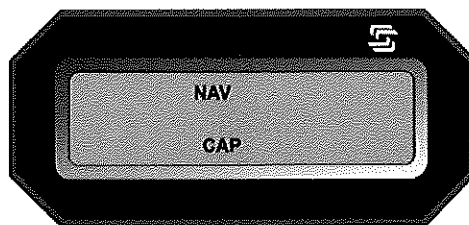

Fig. 3-3. Remote Annunciator Display, NAV Mode Engaged, CAP Condition
When the aircraft arrives at 15% CDI needle deflection, the course is captured. At that instant, a step reduction in autopilot gain occurs, so that the Course Pointer (HSI) or Heading Bug (DG) has sufficient authority to complete the intercept. In addition, the sensitivity to closure rate is reduced. The overall authority of the autopilot during this stage of the intercept sequence is called the CAP condition, which is acknowledged only on the optional Remote Annunciator, as shown in Fig. 3-3.